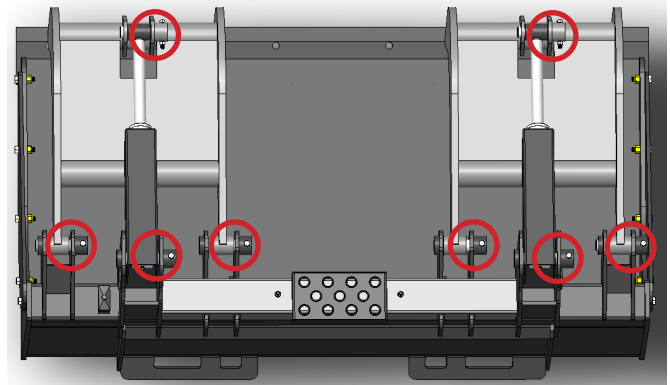

Figure 1
The Extreme Duty Grapple Buckets have eight (8) grease points. These points are circled in Figure 1.